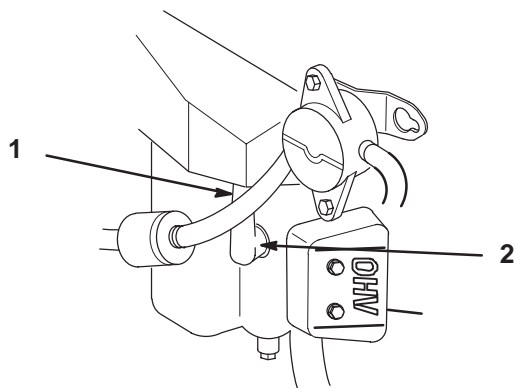

Figure 31
3. Pull the wire(s) off the spark plug(s) (Fig. 31). Now clean around the spark plug(s) to prevent dirt from falling into the engine and potentially causing damage.
3. Push the wire(s) onto the spark plug(s) (Fig. 31).